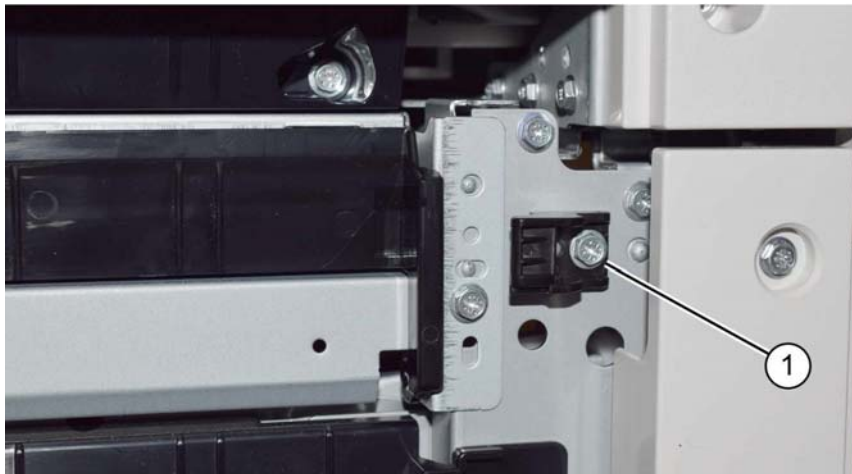

Figure 3 Door catch
6. Remove the upper door catch (1), Figure 3.